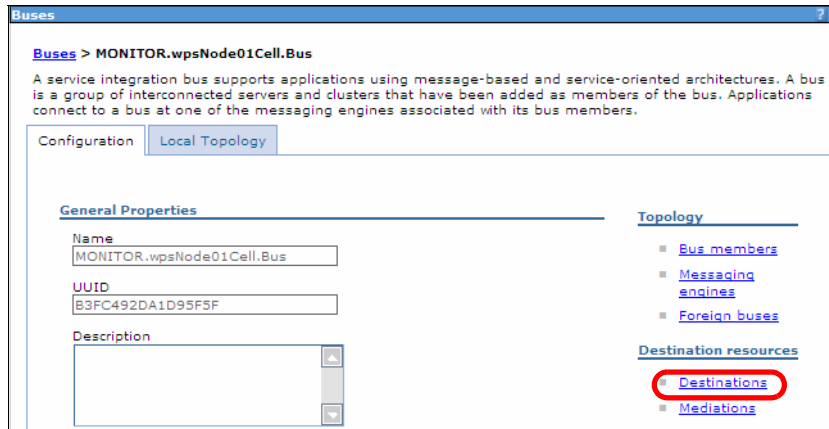

Figure 14-27 Local Monitor bus
- Select *Destinations* (Figure 14-27).